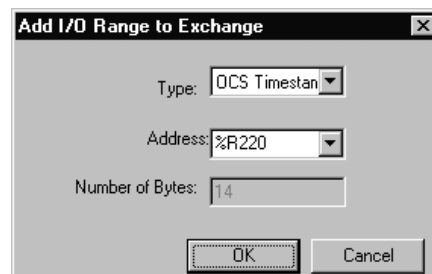

Figure 6.23 – Consumed Exchange 2 OCS Timestamp Block Definition – Node 1
2. Make sure Exchange 2 is highlighted in the upper window (it should be the only Consumed Exchange in this example) and click on the **Add Range** button, to define an OCS Timestamp Block for Consumed Exchange 2. Then fill in the parameters, as shown in Figure 6.23 below, and click **OK**.